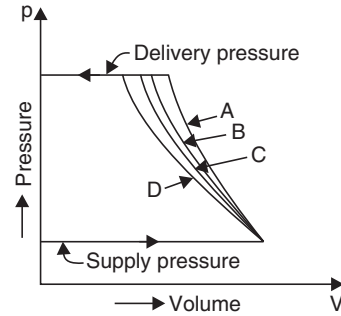

FIGURE 6.9
4. Figure 6.9 shows the theoretical air compression cycle neglecting clearance volume on p - V diagram.
5. Refer to Fig. 6.9, the curve B follows the law of compression given by
6. Refer to Fig. 6.9, the curve C follows the law of compression
7. Refer to Fig. 6.9, the curve D follows the law of compression